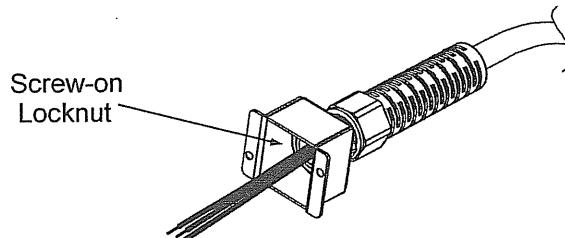

Fig.3-2: Stripped Wires installed in Strain Relief
- c) Slide the helix-shaped body onto the AC cable. Insert the stripped wires through the strain relief base until the outer cable jacket is flush with the edge of the base. Tighten (16-18 Lb-inch.) the body to the base while holding the cable in place. Now the cable is securely fastened inside the strain relief. Refer to Fig. 3-2.